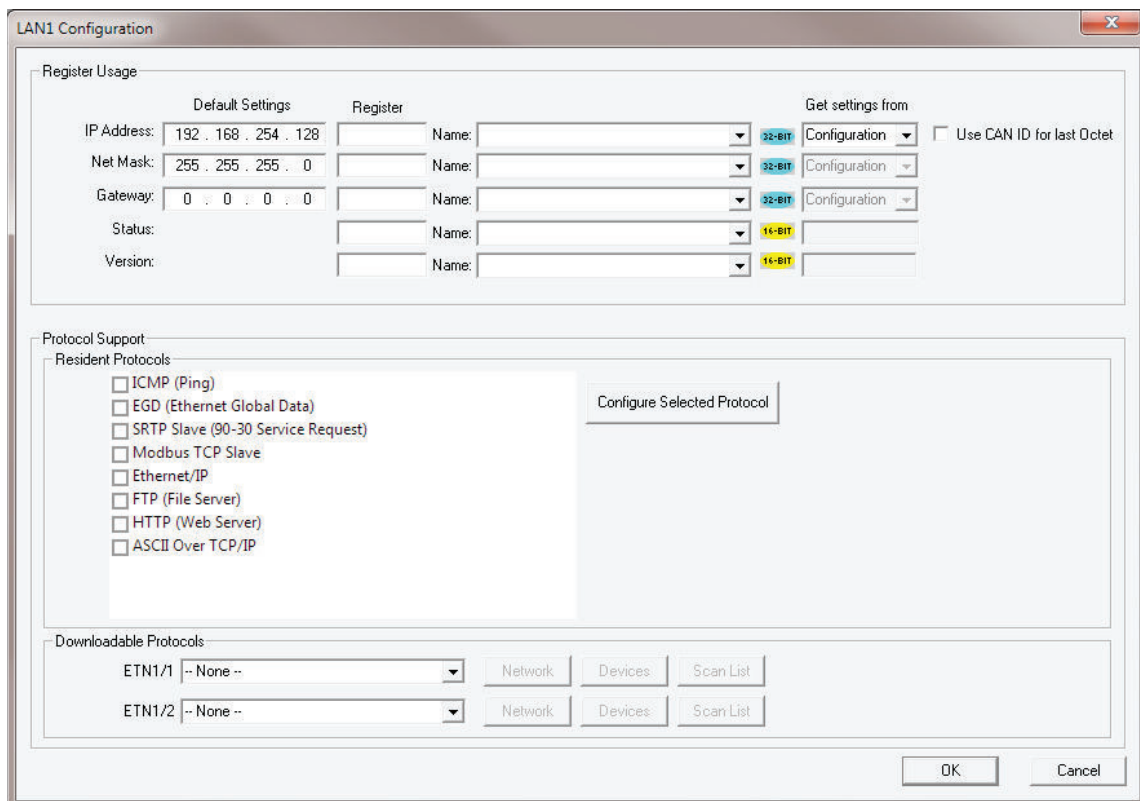

Figure 7.2 – Ethernet Module Configuration
3. Click the **Config** button to the right of LAN1 for LAN 1 or LAN2 for LAN2, revealing the Ethernet Module Configuration dialog as shown in figure 7.2